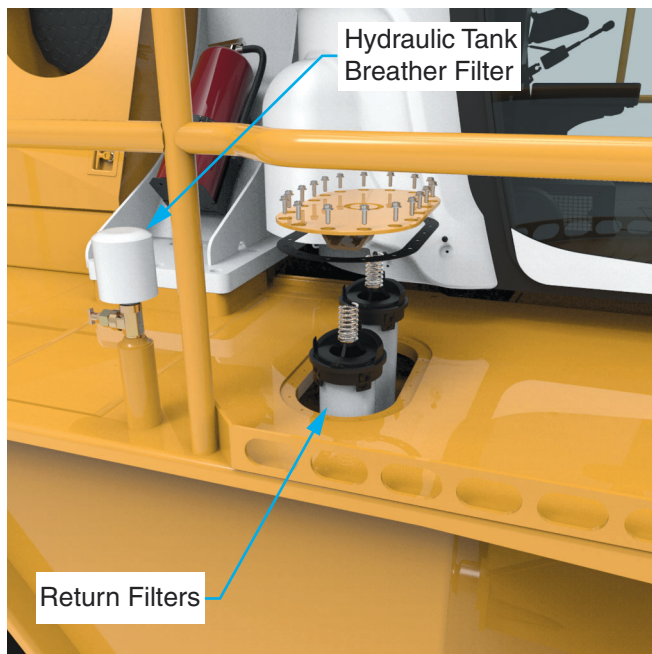

Figure 10 Return Filters and Breather Filter
The breather filter is inside the engine compartment on the right side of the machine. See Figure 10.
1. Shut down the machine and vent captive pressure by opening the petcock at the breather. See Figure 10.
The return filters are accessed from the deck on the right side of the machine. See Figure 10.
6. Discard disposable element (2).